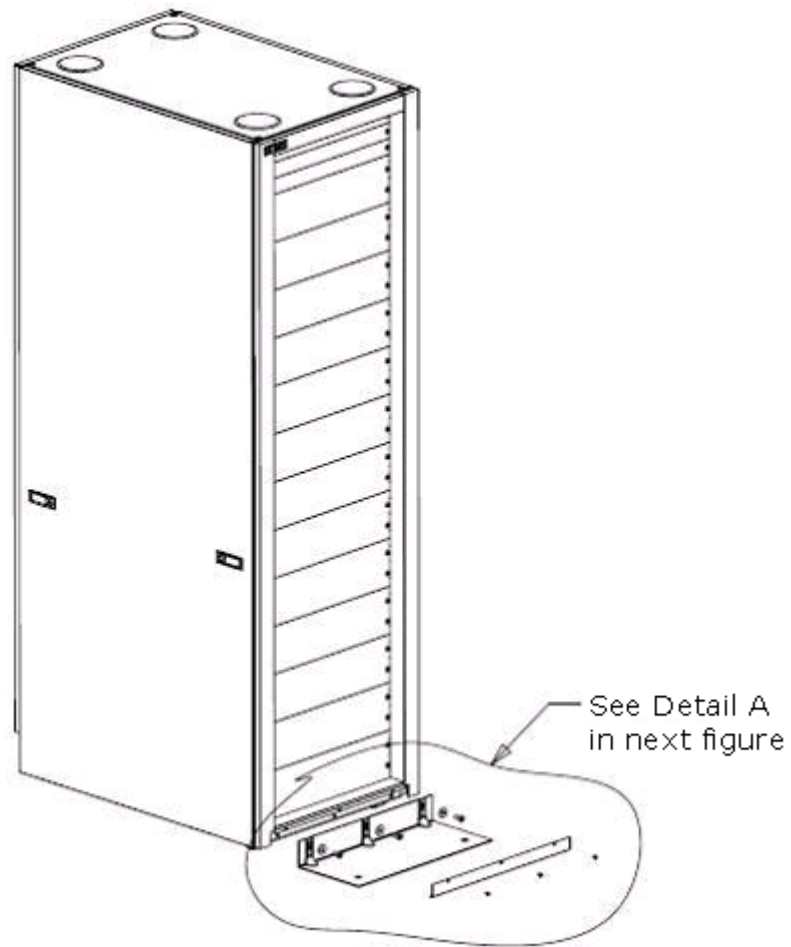

Figure C-19 Installing and Uninstalling the Anti-Tip Stabilizing Plate
- Install the front anti-tip stabilizing plate when installing or removing equipment to provide greater stability and safety. See Stabilizing the rack on page C-30 and Installing side stabilizer plates. Figure C-19 Installing and Uninstalling the Anti-Tip Stabilizing Plate on page C-35 shows an example of how to install the side stabilizer plates. Example of Installing the Side Stabilizer Plates (Detail A) on page C-32.
Figure C-19 Installing and Uninstalling the Anti-Tip Stabilizing Plate on page C-35 shows an example of how to install the side stabilizer plates.
Install anti-tip stabilizing plates to provide further stability to the rack. This extra stability is especially important when installing equipment into the rack or when removing equipment from it. Figure C-19 Installing and Uninstalling the Anti-Tip Stabilizing Plate on page C-35 shows the installation of the anti-tip stabilizing plate. Reverse these actions for uninstalling the anti-tip stabilizing plate.